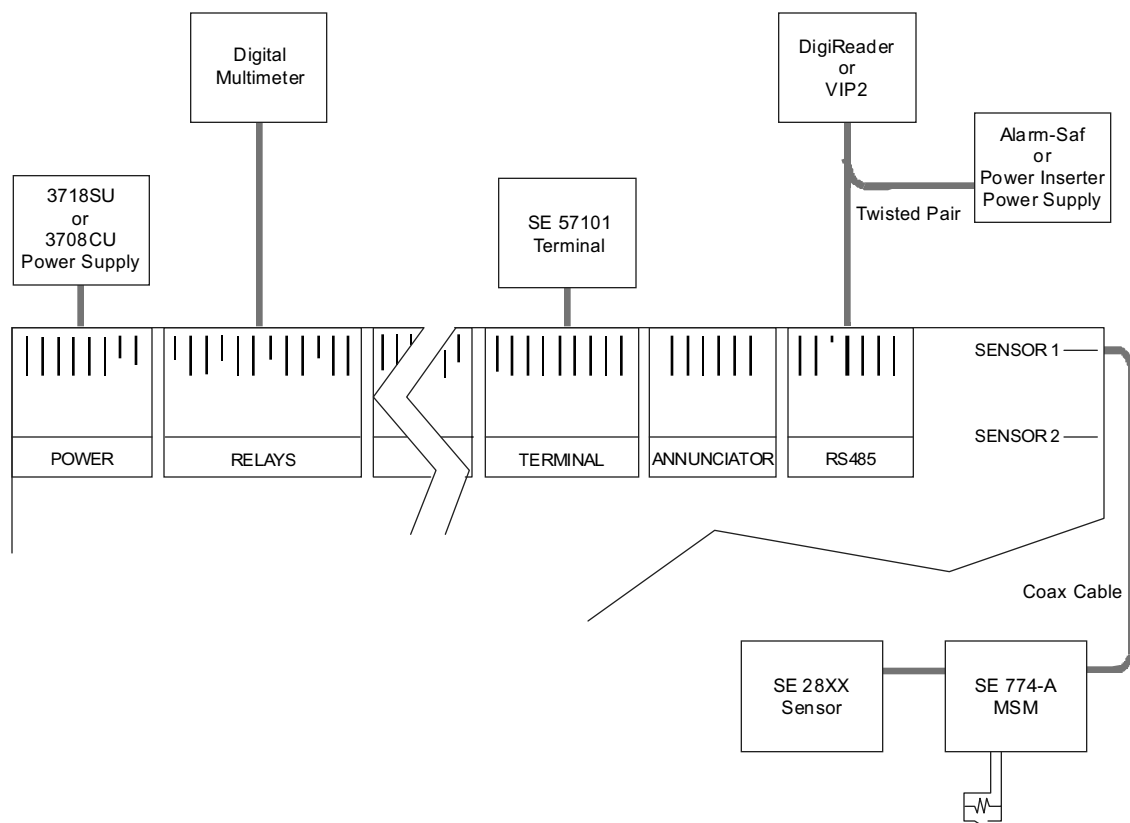

Figure 5-2: Alto 818 Test Setup
2. Ensure that the AC input switches on the power module and terminal are off, and connect equipment as shown in Figure 5-2.
With an SE 28XX sensor connected to an Alto 818 port as shown in Figure 5-2 (MSM not required), verify sensor operation with the following procedure.